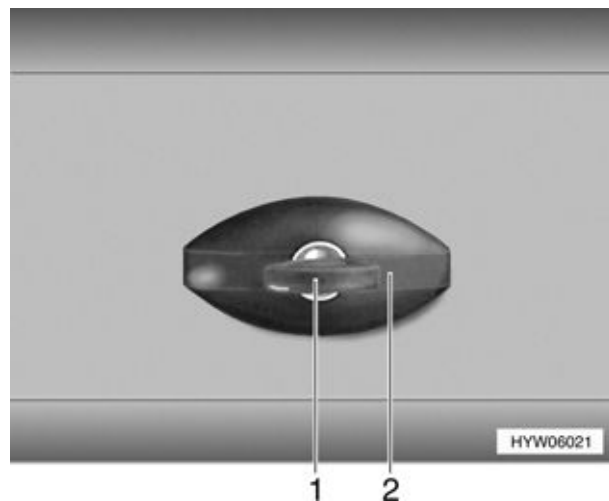

Fig. 31 Flap lock (variant 3), locked
- ▷ During rain, water can penetrate the opened flap lock. Therefore close the lock handle (Fig. 31,2) as shown in Fig. 31.
- Insert key into locking cylinder (Fig. 31,1) and turn a quarter turn in an anticlockwise direction. The lock handle (Fig. 31,2) snaps out.